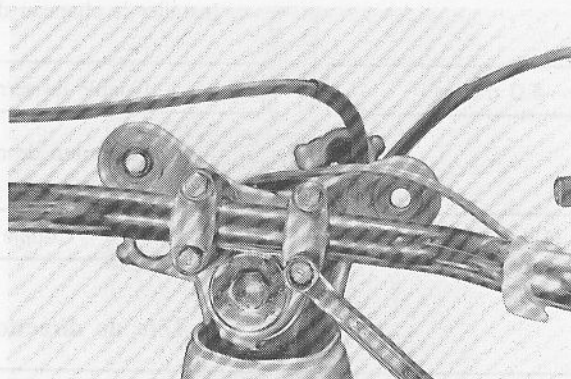

Fig. 5-7-2
2. Remove handlebars and put aside. (Fig. 5-7-2)
2. Démontez le guidon et le ranger. (Fig. 5-7-2)